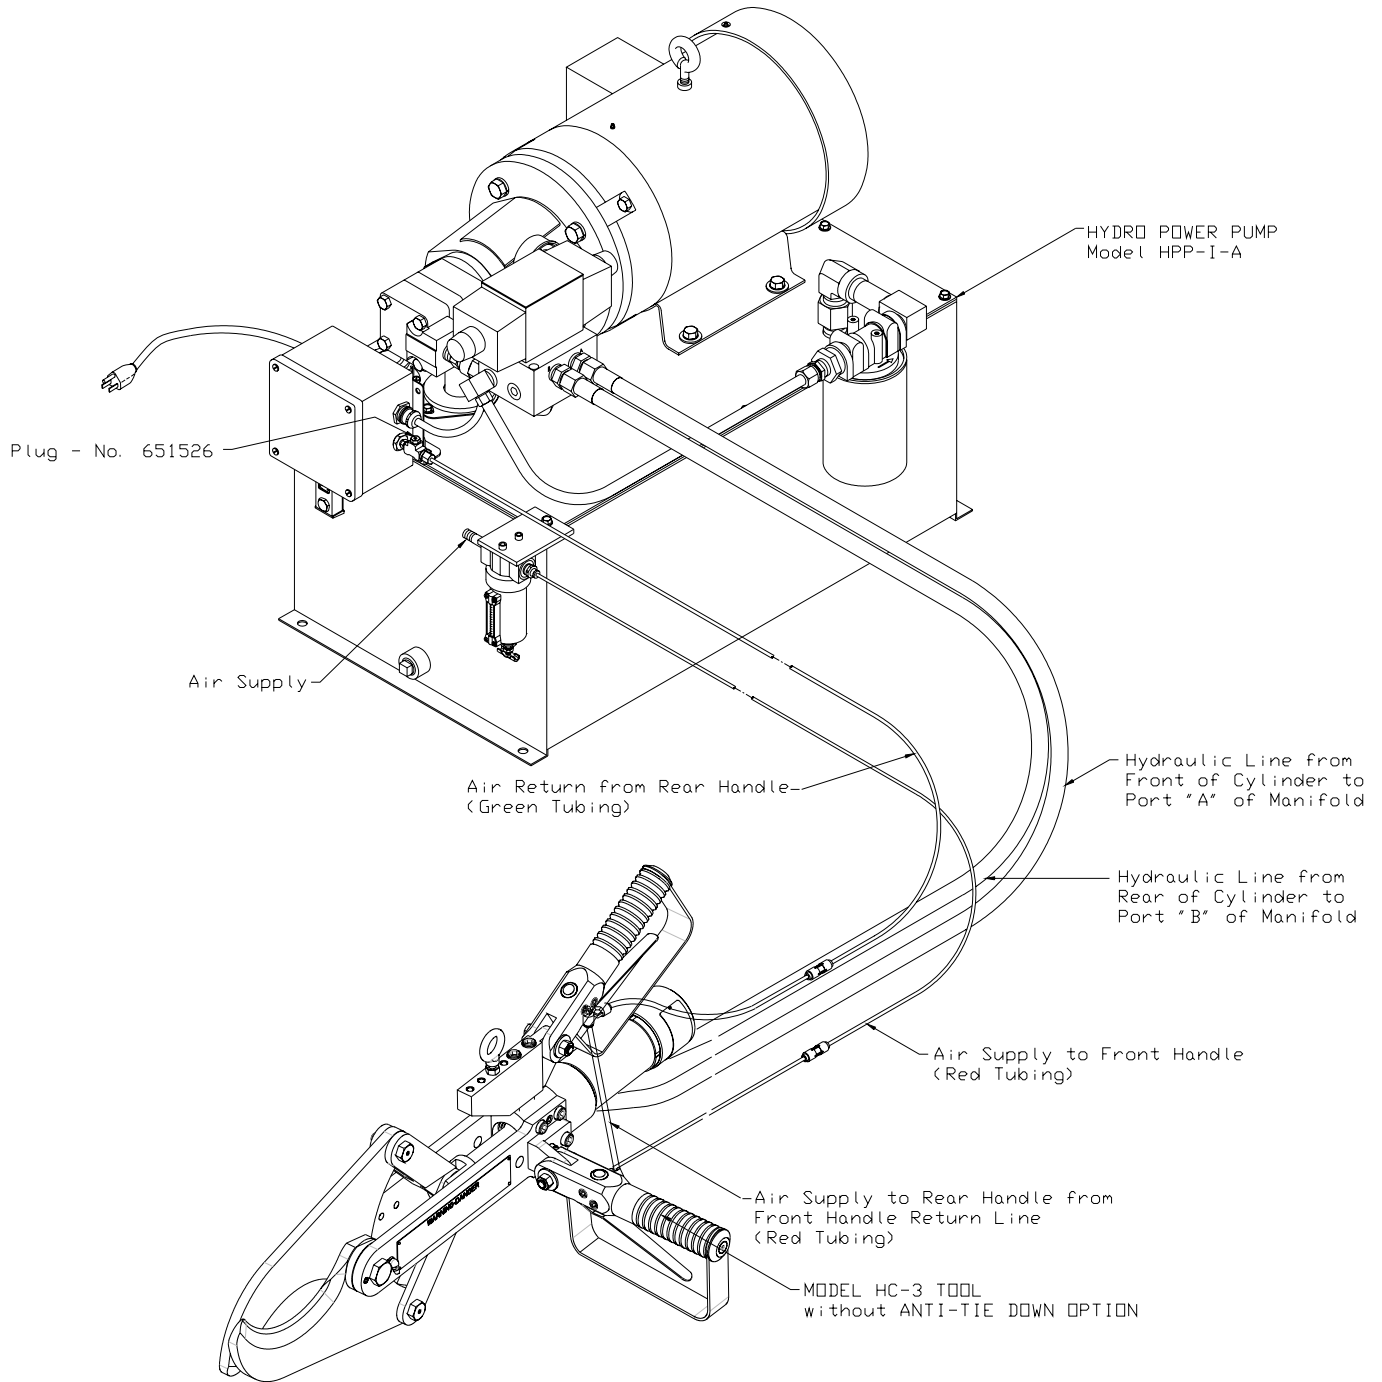

Figure 4 HPP-1-A TUBING DIAGRAM WITHOUT ANTI-TIE DOWN
4. ATTACH HOSES AND TOOL TO THE PUMP. KENTMASTER RECOMMENDS UP TO 20 FT LONG HOSES BETWEEN TOLL AND PUMP. (CONNECTION DIAGRAM FIGURE 4 AND 5)
6. CONNECT AIR SUPPLY AND AIR LINES COMING FROM TOOL ACCORDING TO YOUR CONTROL OPTIONS. (CONNECTION DIAGRAM FIGURE 4 AND 5)
- MAKE SURE AIR CONTROL LINES ARE CONNECTED ACCORDING TO THE DIAGRAM (FIG. 4 AND 5)
WIRING AND CONNECTION FOR STANDARD AND ANTI-TIE DOWN OPTION ARE SHOWN IN FIGURES 4 AND 5.